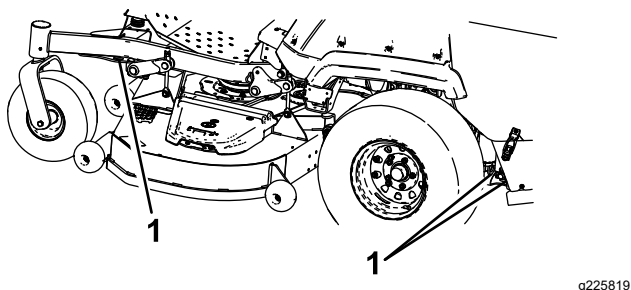

Figure 35
6. Tie down the machine near the front caster wheels and the rear frame with straps, chains, cable, or ropes (Figure 35). Refer to local regulations for tie-down requirements.